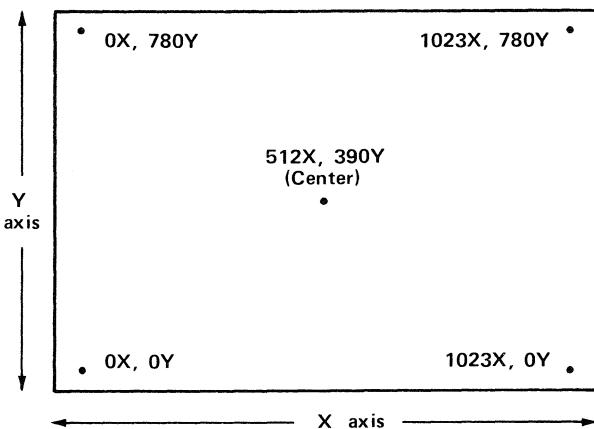

Fig. 1-6. Basic address positions on the display screen.
**Receiving** — Alpha Mode causes alphanumeric characters to be written as received; control characters are executed as received; Terminal goes into a reduced intensity status (Hold) after approximately 90 seconds of inactivity; Terminal returns to View status upon keyboard entry or upon receipt of data from the computer. Graph Mode causes received data to be interpreted as specific addresses for the X and Y registers within the Terminal, resulting in moving the display unit beam to specific positions; the basic address positions are shown in Fig. 1-6. Control characters are executed as received.